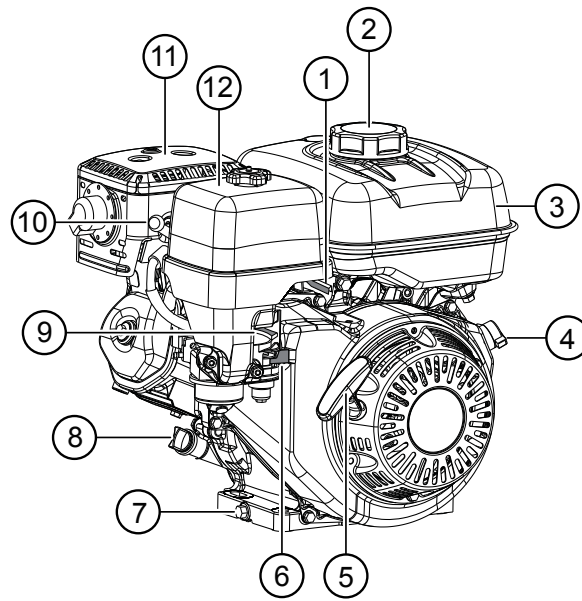

Figure 3. Engine Controls and Components
The engine (Figure 3) must be checked for proper lubrication and filled with fuel prior to operation. Refer to the manufacturer's engine manual for instructions and details of operation and servicing.
8. **Dipstick/Oil Filler Cap** – Remove this cap to determine if the engine oil is low. Add oil through this filler port as recommended in (Figure 3).